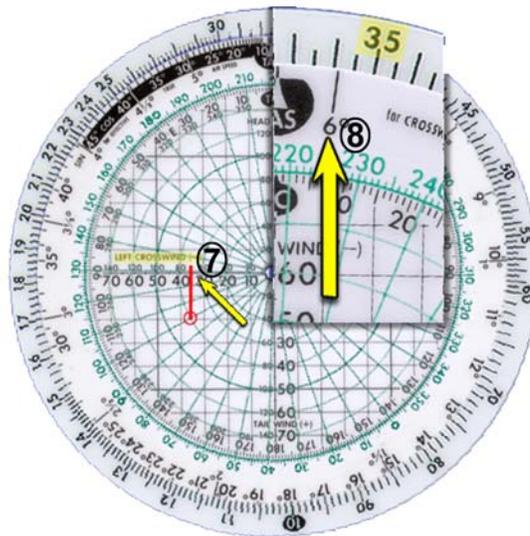

Figure 4.5-17 Preflight Wind Calculation 6
8. The actual crosswind value of 35 should produce a Crab Angle slightly greater than 6° . It does (6.2° , Figure 4.5-17), but always round to the nearest whole degree. Apply this CA to the TC (+ or -) to determine the TH. In this case, 218° minus 6° equals a TH of 212° .